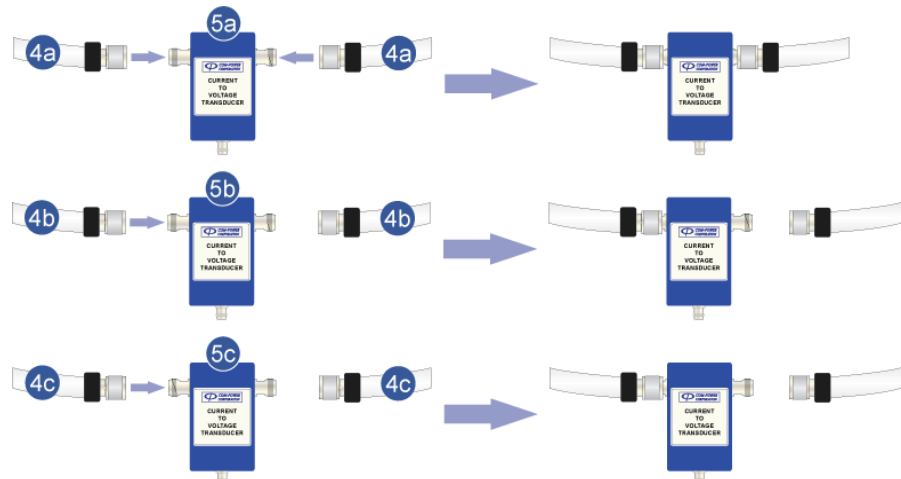

Figure 10 - ALT-930-2M Triple Loop Antenna Assembly – Step #6
With one (1) of the three (3) 2-meter diameter Insulated Loops4a/4b/4c, screw and tighten each of the male N-connectors onto the mating female N-connectors on either side of one (1) of the three (3) Current to Voltage Transducers5a/5b/5c. With the remaining two (2) loops/transducers, attach the N-connector on only one side of the transducer, leaving the other side unattached. Refer to Figure 10.